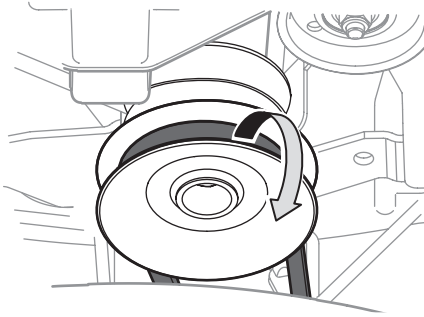

Figure 4-6
4. Remove the belt from around the tractor's PTO pulley. See Figure 4-6.
3. Remove the deck belt from around the riding mower's PTO drive pulley as shown in Figure 4-6. Simply roll one side of the belt OFF of the pulley and then work it OFF the pulley by continuing around the pulley until the belt is OFF of the pulley.
9. Feed the deck belt through the belt keeper rod and work it around and onto the PTO drive pulley as shown in Figure 4-6.